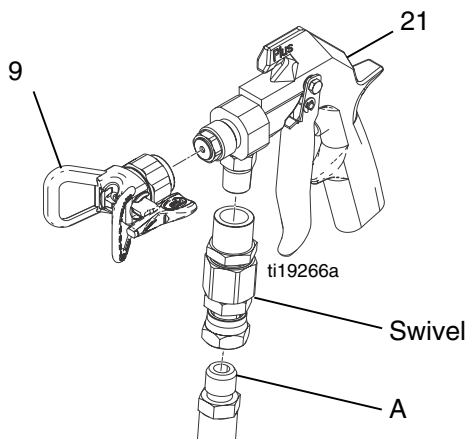

FIG. 5
2. Disconnect the fluid hose (A) and swivel (if used). Remove the tip guard (9). Unscrew the spring screw (21) about 1/4 in. (7 mm) to release spring tension. See FIG. 5.